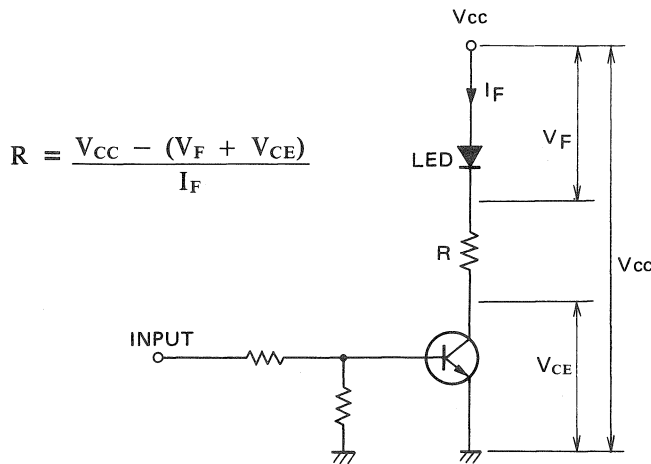

Fig. 12 LED Drive Circuit
A basic drive circuit is shown in Fig. 12. The circuit is a simple switching circuit. Brightness of an LED is adjustable by changing the forward current (I_F) which is determined by a resistor (R). A driver IC is required for an LED display because every element requires a transistor.